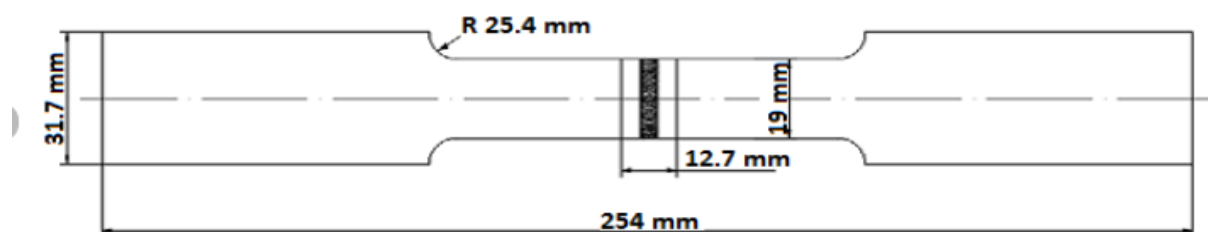

Fig.2: Tension test specimen preparation
7. By joining the two broken halves of the specimen together, measure the final length and diameter of specimen as shown in fig.2.